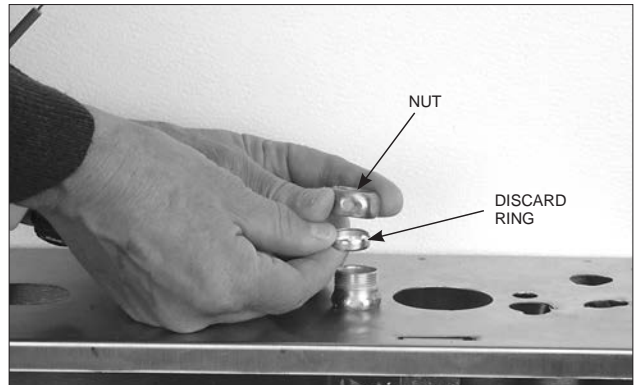

FIGURE 5-54
3. Unscrew the nut from the EMT conduit connector and remove the compression ring. Discard ring. See Figure 5-54.